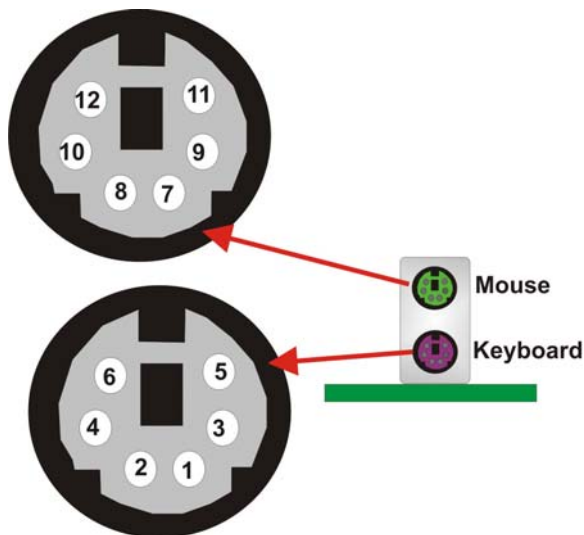

Figure 4-22: PS/2 Pinouts
- CN Pinouts:** See Figure 4-22 and Table 4-20
- CN Pinouts:** See Figure 4-22 and Table 4-21